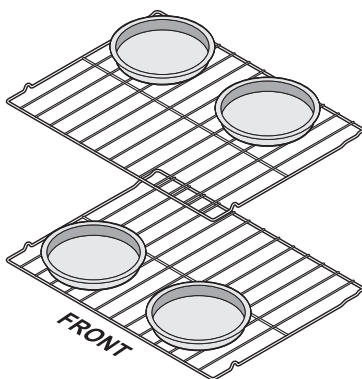

Figure 21: Pan positions two rack baking
- When baking using two oven racks, position cookware as shown in Figure 21. Allow at least 2 inches (5 cm) of space between cookware for proper air circulation.